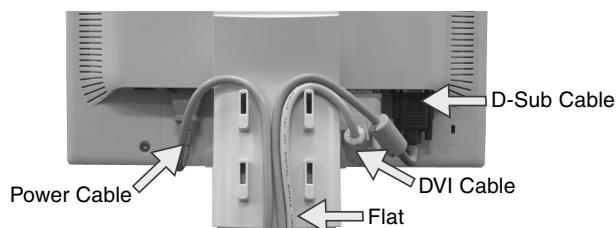

Figure C.2
5. Place DVI cable, D-Sub cable and power cable between bosses indicated in **Figure C.2**.
6. Make sure all cables are resting flat against the stand (**Figure C.2**).